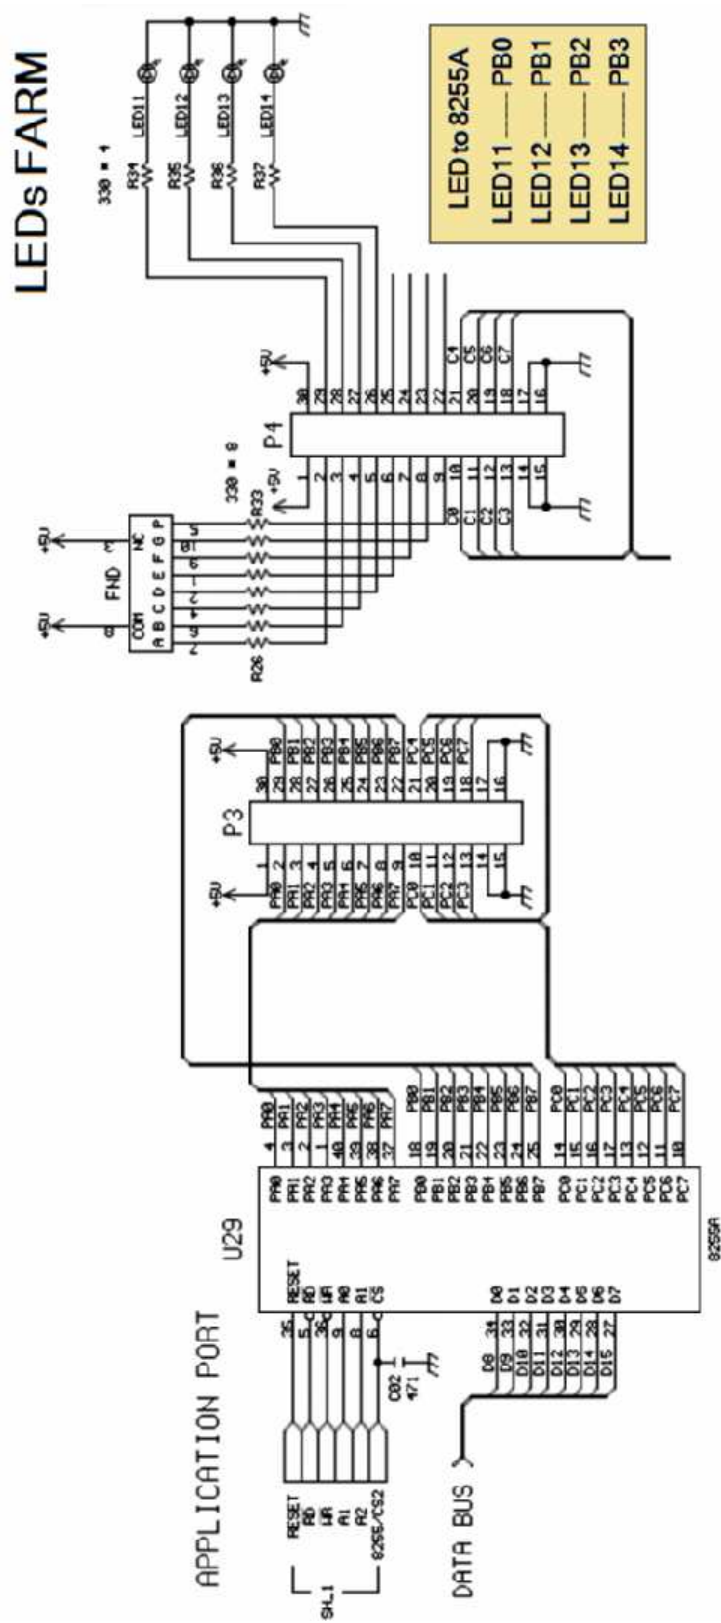

Figure 12: PPI Schematics
1. Understand the code very well, every single line of it. (Refer to Figure 12)
Modify the file you have created. Your task is to implement a binary counter counts from 0 to 7 and back again to 0. Use LED11,LED12, and LED13 (Figure 12).